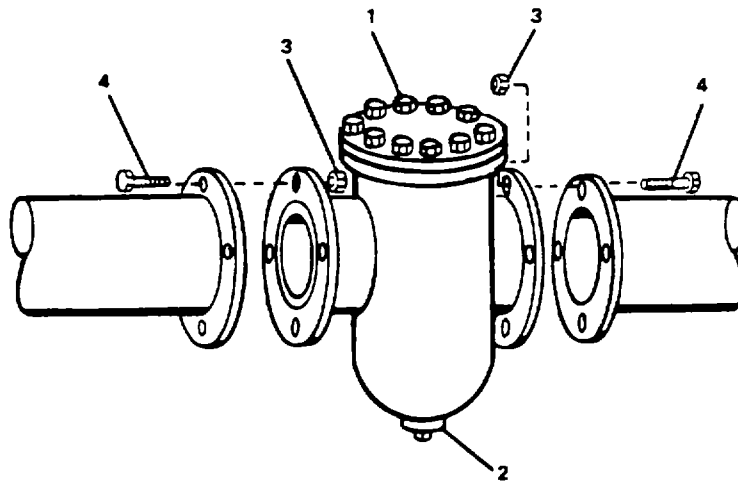

Figure 2-105. Replace 8-Inch Simplex Strainer.
- a. Place utility pail under strainer (1, Figure 2-105) and remove plug (2).
- b. Replace plug (2) after draining strainer.
- c. Remove nuts (4) and bolts (3).